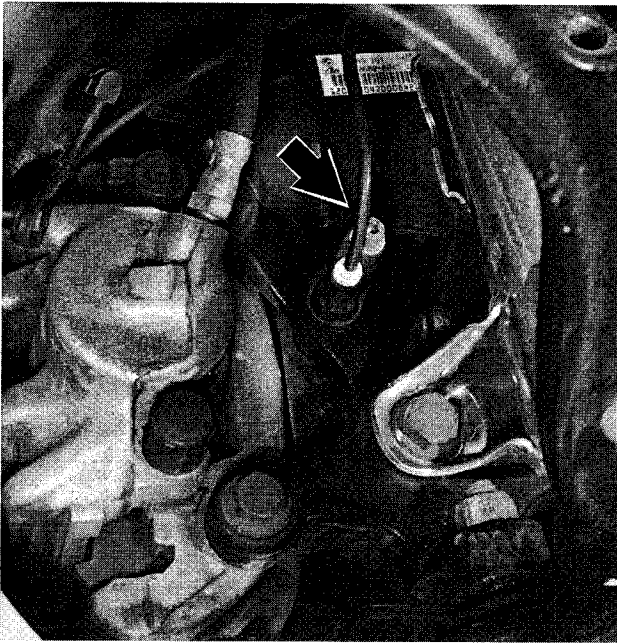

Fig. 3. ABS wheel speed sensor mounting bolt (arrow).
3. Remove ABS wheel speed sensor. See Fig. 3.